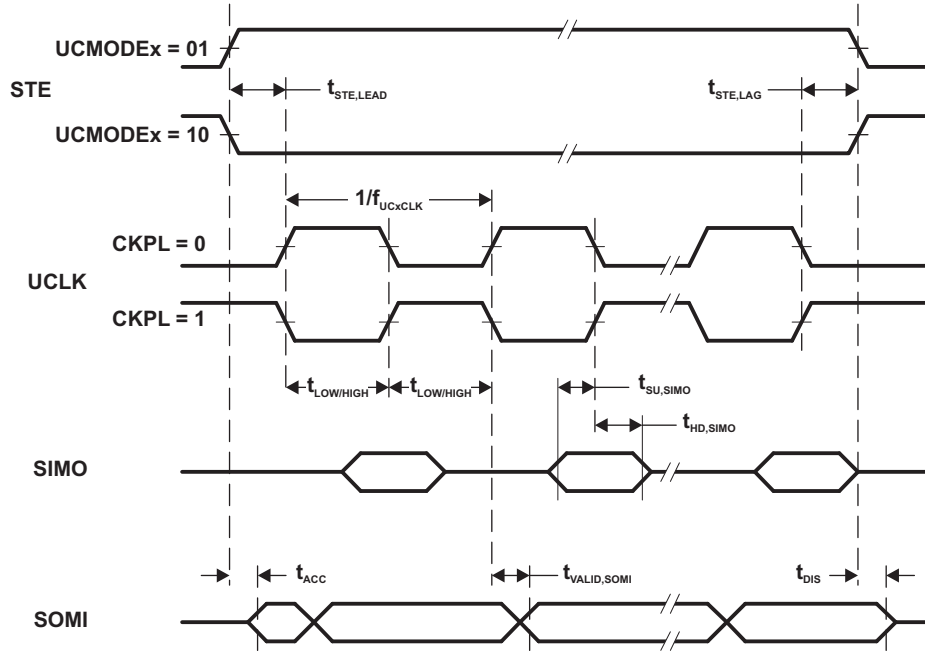
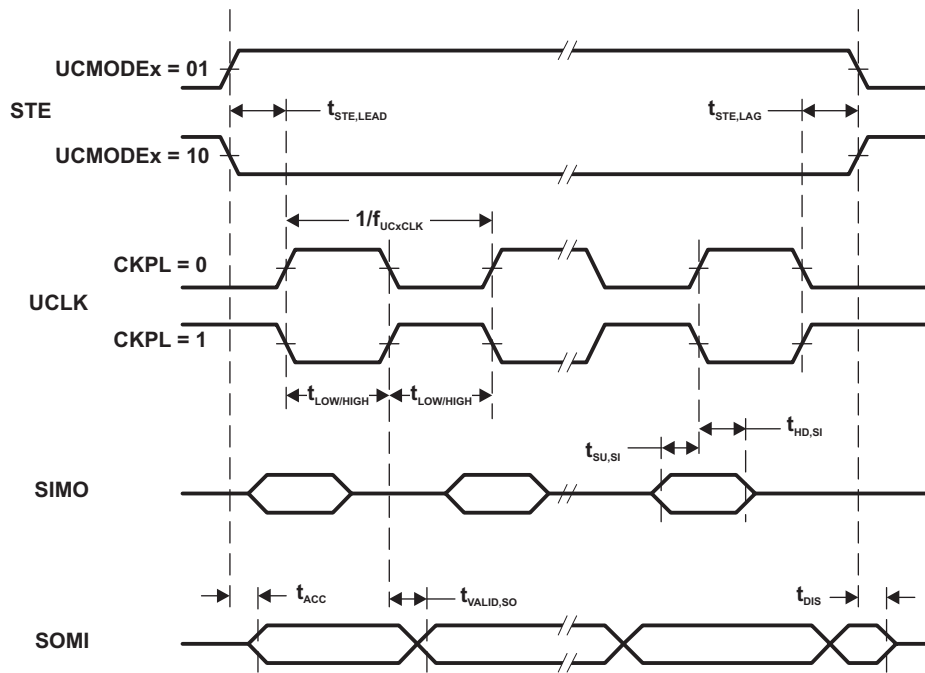

Figure 7. SPI Slave Mode, CKPH = 0
Figure 8. SPI Slave Mode, CKPH = 1
- (2) Specifies the time to drive the next valid data to the SOMI output after the output changing UCLK clock edge. See the timing diagrams in Figure 7 and Figure 8.
- (3) Specifies how long data on the SOMI output is valid after the output changing UCLK clock edge. See the timing diagrams in Figure 7 and Figure 8.